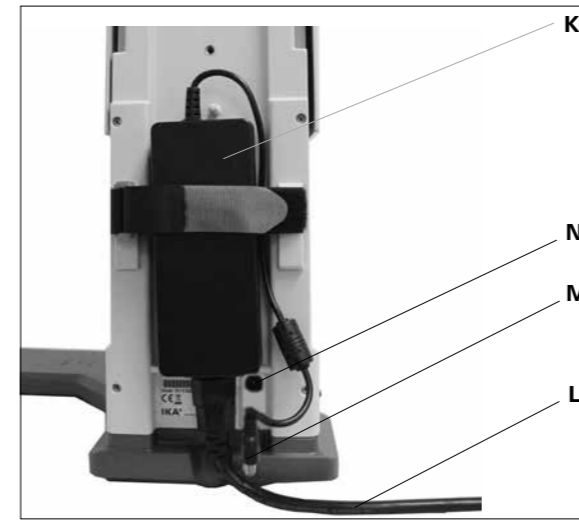

Fig. 9
#### 3.) Fix the Desktop switching. (Fig. 9)
- Attach the switching adapter (K) on the rear side. Secure it with the Velcro, by contracting both tabs on the switching adapter. The Velcro must not be below the switching adapter.
- Connect the Low-voltage connector (M) to the connection socket (N). (Fig. 9)
- Plug the power cord (L) in the switching adapter and connect it to the power source.